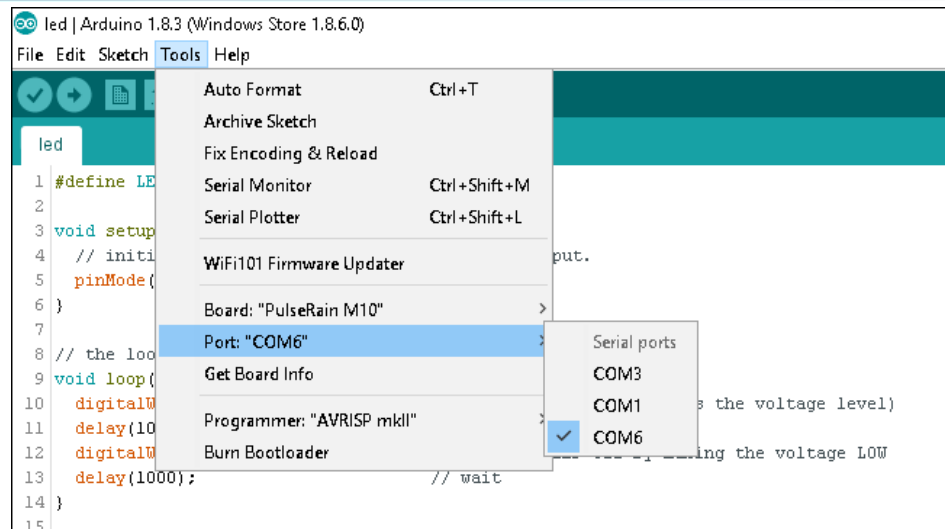

**Figure 5-6 Arduino IDE, Boards Support Package for T20 Dev Kit**
- 5) The "Boards Manager" will bring out a dialogue like the one shown in Figure 5-6. Type in "Reindeer" in the search box to find the board support package for the T20 Dev Kit. Click "Install" to download and install the board support package.